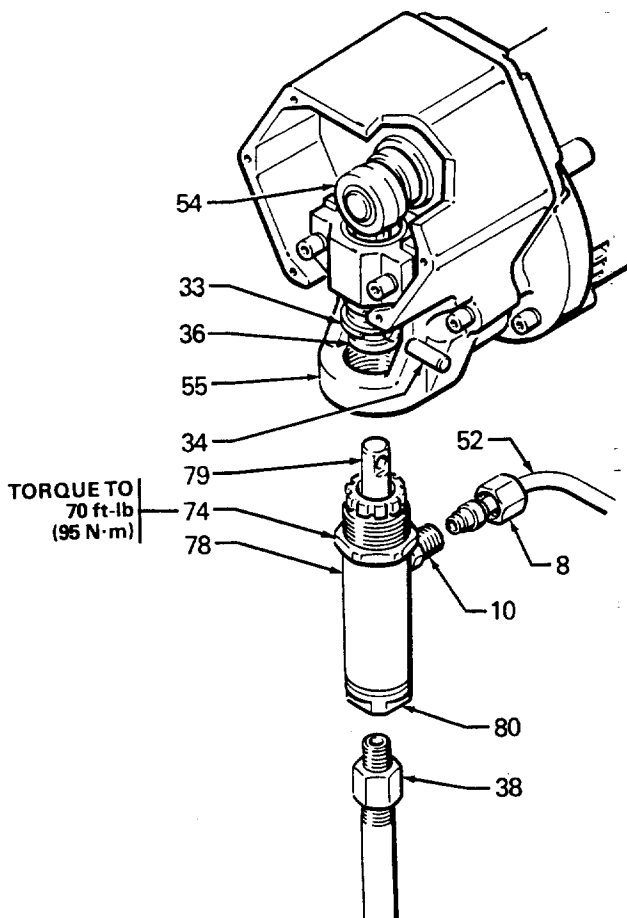
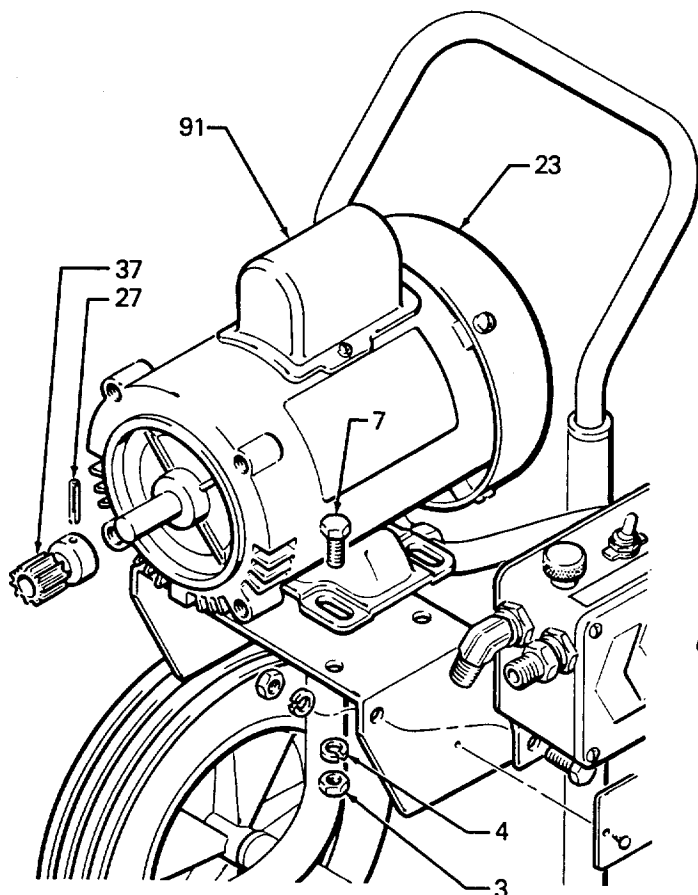
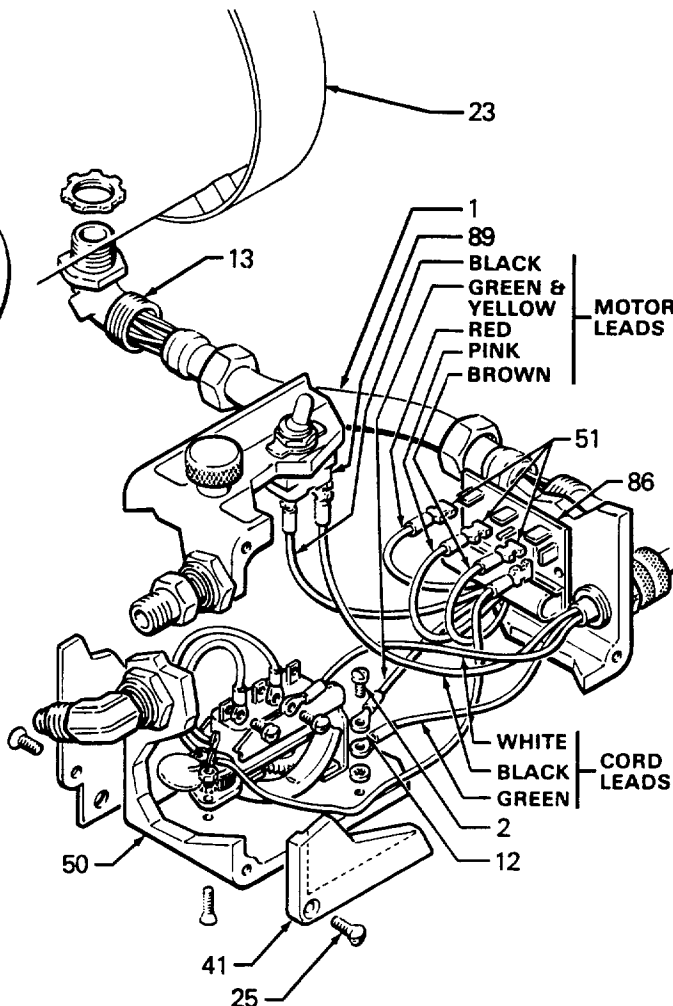

Fig 1
Fig 7
Fig 8
Unscrew adapter (38) from pump. See Fig 1. Use a wrench on the pump intake valve (80) to keep it from loosening.
Unscrew the tube fitting nut (8) from male connector (10) and remove tube (52). See Fig 1.
Remove two screws and the cover of capacitor (91). See Fig 7. Remove flag connectors from old capacitor. Connect flag connectors of new capacitor and replace cover.
Disconnect tube fitting nut (8) from connector (10). See Fig 1. Remove drive assembly as described on page 6. You can leave pump, connecting rod and bearing assembled to drive assembly. Drive out pin (27) and remove gear (37). See Fig 7. Remove screws (25) and cover (41) from pressure control (50). See Fig 8. Disconnect red, pink and brown motor leads from circuit board (86). Disconnect green and yellow motor lead from grounding screw (2) and black motor lead from toggle switch (89)
Unscrew nuts on both ends of conduit (1) from connectors. Remove screws (7), nuts (3) and lockwashers (4). See Fig 7. Remove motor from frame while carefully guiding wires through connector in control box. Remove conduit (1) from wires.
NOTE: Terminals (12 and 51) are not included with a new motor (23). Order these separately and crimp to motor leads as shown in Fig 8. Circuit board (86) is included with a new motor.